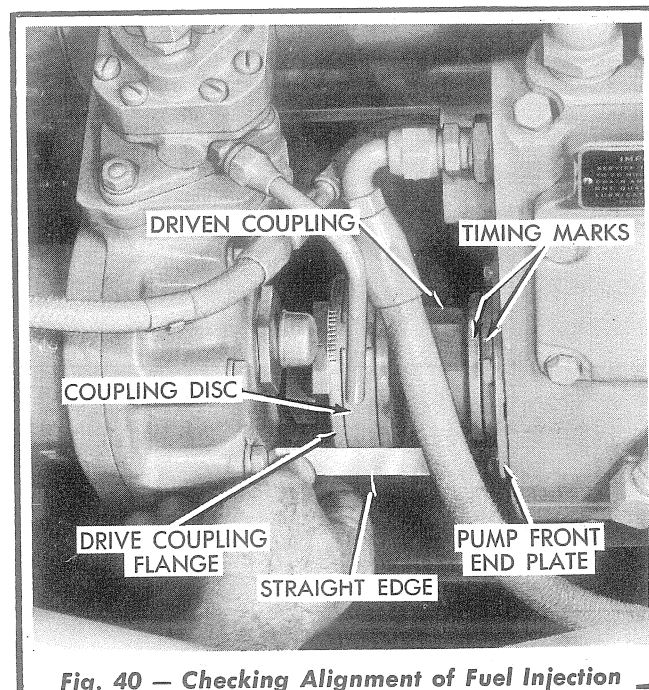

Fig. 40 — Checking Alignment of Fuel Injection Pump (Tractors Prior to Serial No. 4001)
Before removing the fuel injection pump from the engine, make certain the timing mark on the fuel injection pump driven coupling (drive coupling flywheel in tractors Serial No. 4001 and above) and the corresponding timing mark on the fuel injection pump front end plate Figs. 40 and 42 are aligned. When these marks are aligned, the No. 1 piston is near the top on its compression stroke.
- a. Make certain the engine shut-off knob is pulled back to the "STOP" position. Crank the engine with the starter until the timing marks Fig. 40 or 42 are nearly aligned.
- c. Remove the center floor plate. Move the transmission shift lever to its neutral position and pull the engine clutch operating lever to its engaged position. Using a bar, or similar tool, inserted in the drive shaft universal joint, turn the joint counterclockwise (viewed from rear) until the fuel injection pump timing marks (Figs. 40 and 42) are aligned. **NOTE:** When the fuel injection pump timing marks are aligned, the "FPI" mark in the engine flywheel should be centered in the timing hole in the flywheel housing.
h. Turn the driven coupling of the fuel injection pump to align the timing mark on the driven coupling with the corresponding timing mark on the pump front end plate (Fig. 40).
i. Install the fuel injection pump and governor in position on the pump mounting bracket, inserting the driving lugs of the drive coupling flange into the slots of the coupling disc. The two zeros ("0"), one on the drive coupling flange and one on the driven coupling (Fig. 40), should be in alignment when the pump is installed. Install the capscrews to attach the fuel injection pump to the pump mounting bracket, but do not tighten the capscrews at this time.
fully aligned. Use a straight edge as shown in Fig. 40 to check the alignment of the pump with the accessory drive. Move the
- m. Observe the timing mark on the pump front end plate and the corresponding timing mark on the driven coupling (Fig. 40) to see if they are properly aligned. If a slight misalignment is observed, turn the drive coupling flange as necessary to align these timing marks, then tighten the two drive coupling flange attaching capscrews.